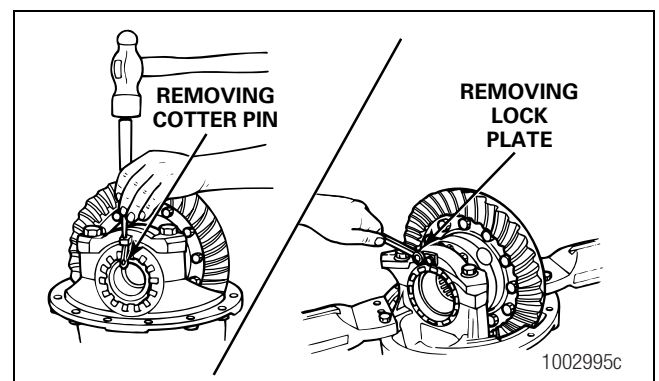

Figure 3.42
3. Remove the capscrews, cotter pins, roll pins or lock plates, if equipped, that hold the bearing adjusting rings in position. Use a small drift and hammer to remove the pins. Each lock plate is held in position by two capscrews. Figure 3.42.